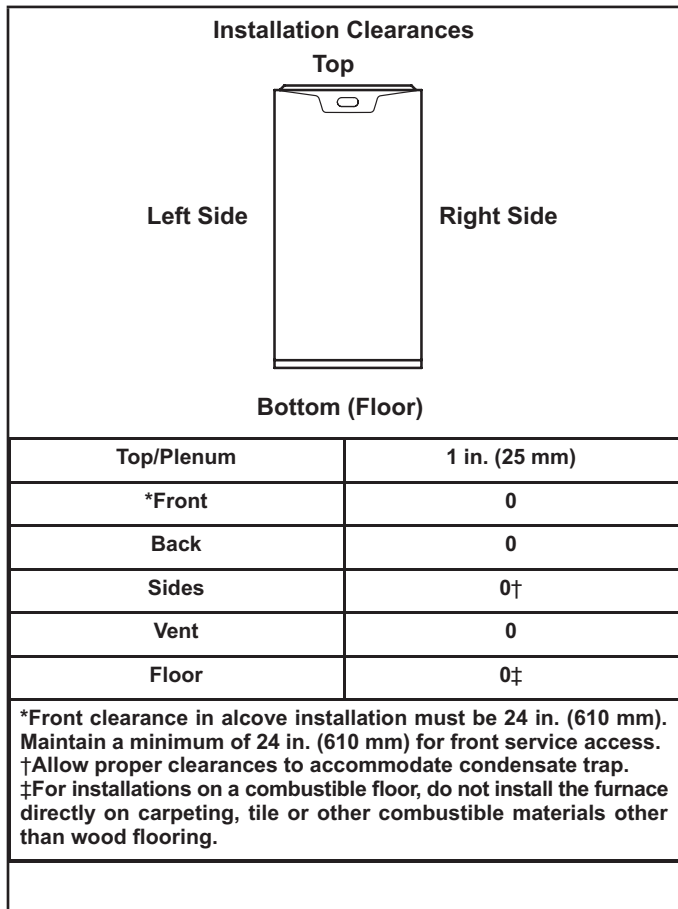
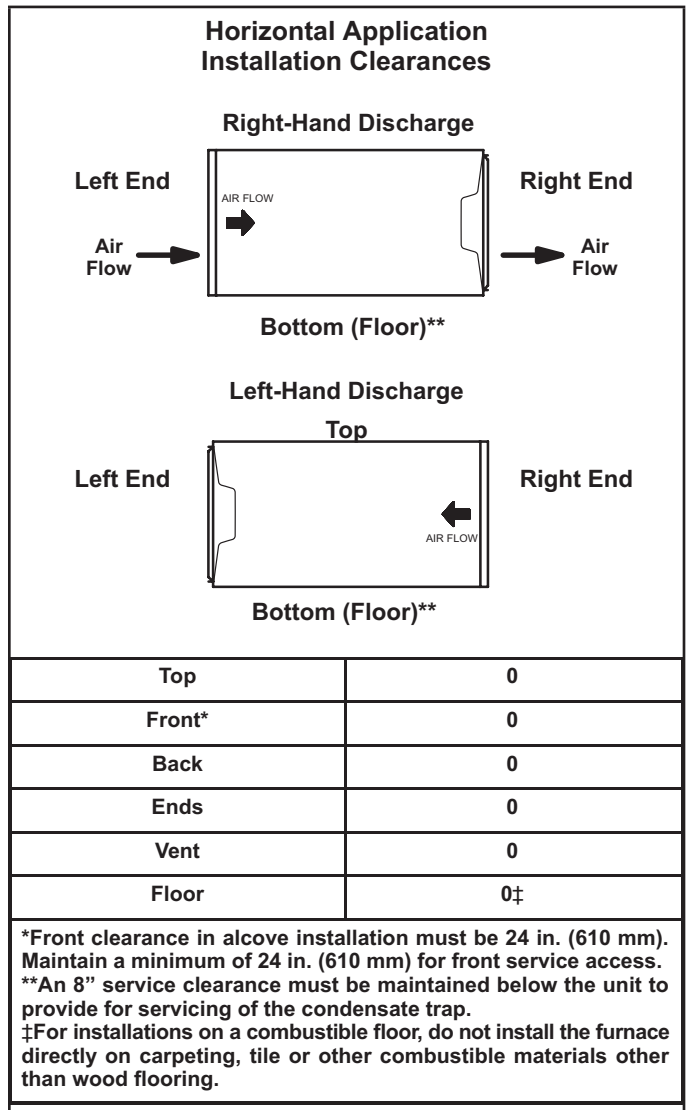

FIGURE 10
FIGURE 11
This furnace is designed for installation clearances to combustibles as listed on the unit nameplate and in the tables in FIGURE 10 and FIGURE 11. Accessibility and service clearances must take precedence over fire protection clearances.
The SLP99UHV gas furnace can be installed as shipped in the upflow position. Refer to figure 10 for clearances. Select a location that allows for the required clearances that are listed on the unit nameplate. Also consider gas supply connections, electrical supply, vent connection, condensate trap and drain connections, and installation and service clearances [24 inches (610 mm) at unit front]. **The unit must be level from side to side. Unit may be positioned from level to 1/2" toward the front to aid in draining. See FIGURE 5.**
Allow for clearances to combustible materials as indicated on the unit nameplate. Minimum clearances for closet or alcove installations are shown in FIGURE 10 and FIGURE 11.
The SLP99UHV furnace can be installed in horizontal applications with either right- or left-hand air discharge. Refer to FIGURE 11 for clearances in horizontal applications
- 1 - Select location for unit keeping in mind service and other necessary clearances. See FIGURE 11.